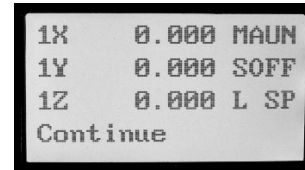

Figure 10-5
7. Controller display will now show work origin zero on three axes. Figure 10-5 shows parameters stored in **MENU + 1** location.